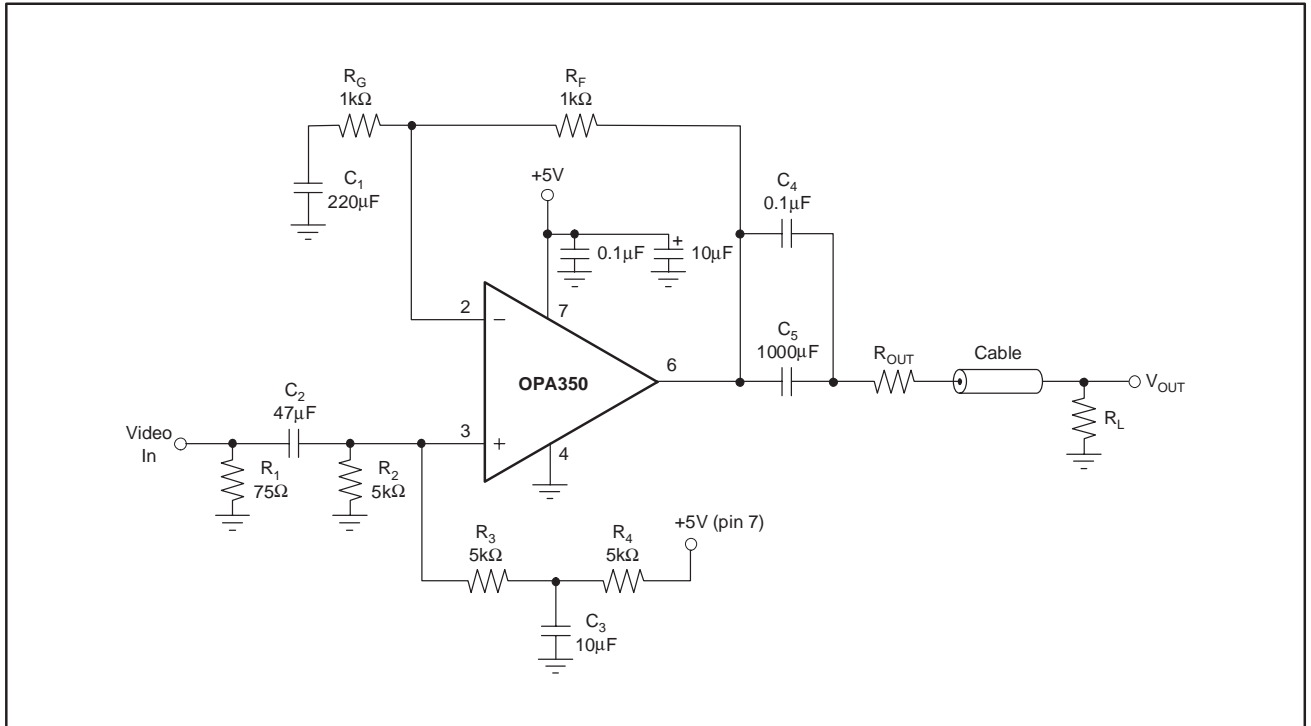

Figure 6. Single-Supply Video Line Driver
(3) NTSC signal generator used. See Figure 6 for test circuit.
(4) Output voltage swings are measured between the output and power supply rails.
(5) See typical characteristic curve, *Output Voltage Swing vs Output Current*.
Figure 6 shows a circuit for a single supply, $G = 2$ composite video line driver. The synchronized outputs of a composite video line driver extend below ground. As shown, the input to the op amp should be ac-coupled and shifted positively to provide adequate signal swing to account for these negative signals in a single-supply configuration.
The input is terminated with a 75 Ω resistor and ac-coupled with a 47 μ F capacitor to a voltage divider that provides the dc bias point to the input. In Figure 6, this point is approximately $(V_-) + 1.7V$. Setting the optimal bias point requires some understanding of the nature of composite video signals. For best performance, one should be careful to avoid the distortion caused by the transition region of the OPA350's complementary input stage. Refer to the discussion of rail-to-rail input.